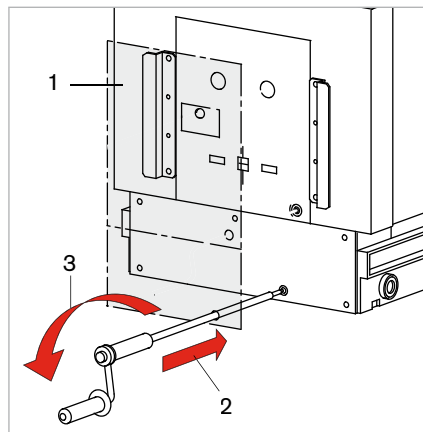
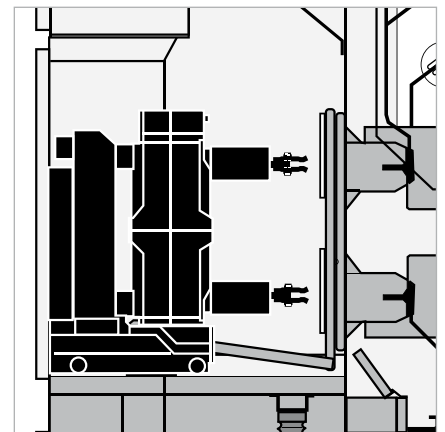

Fig. 47
Fig. 48
1. Open cover in panel (Fig. 47, item 1) and insert crank (2).
2. Turn crank counter-clockwise (3) until the truck has been racked out. Remove crank.
3. Check position of the truck (Fig. 48) through the inspection port.